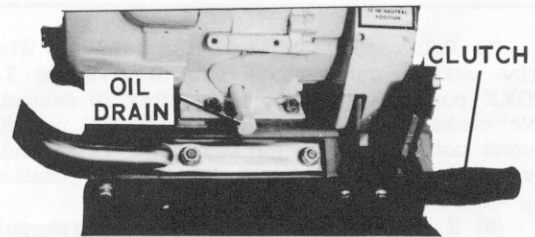

Figure 2
a. The engine clutch is controlled by a lever mounted on the right hand side of the unit (figure 2) just forward of the engine.